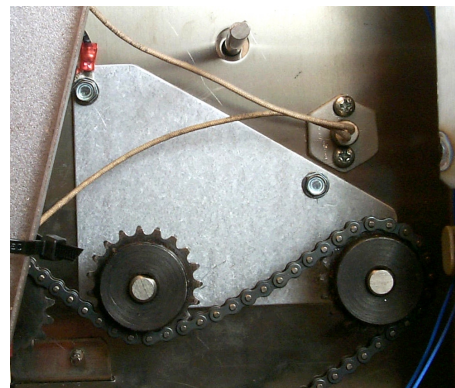

Fig: 11 Replace grounding screw and wires, conveyor-support screw, push heater cartridge into place and secure with two screws.
- Return heater cartridge and tighten screws. Fig 11.